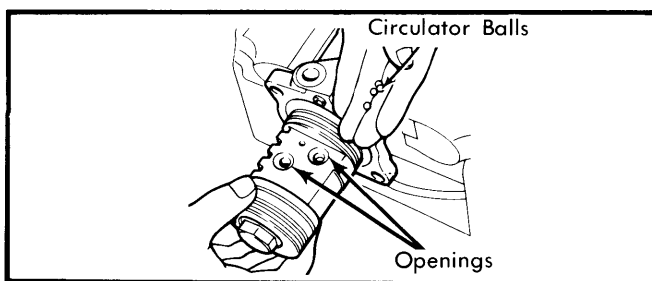

Fig. 6 Installing Circulator Balls to Rack Piston. Install Balls Using a Brass Rod to Push In.
7) Insert rack-piston into input worm shaft until piston touches worm shaft end. Rotate worm shaft and align ball running surface with ball insertion hole. Insert 19 balls into hole by pushing lightly with a brass rod. See Fig. 6.